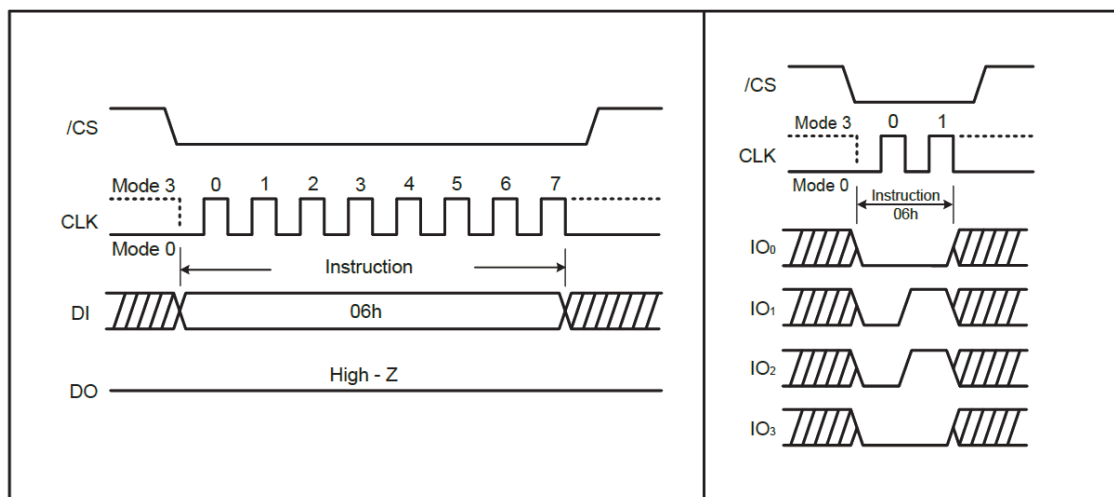

Figure 7, Write Enable Instruction Sequence Diagram and QPI Mode (right)
Instructions vary in length from a single byte to several bytes and may be followed by address bytes, data bytes, dummy bytes (don't care), and in some cases, a combination. Instructions are completed with the rising edge of edge CS#. Clock relative timing diagrams for each instruction are included in figures 7 through 43. All read instructions can be completed after any clocked bit. However, all instructions that Write, Program or Erase must complete on a byte boundary (CS driven high after a full 8-bits have been clocked) otherwise the instruction will be terminated. This feature further protects the device from inadvertent writes. Additionally, while the memory is being programmed or erased, or when the Status Register is being written, all instructions except for Read Status Register will be ignored until the program or erase cycle has completed.
The Write Enable instruction (Figure 7) sets the Write Enable Latch (WEL) bit in the Status Register to a 1. The WEL bit must be set prior to every Page Program, Sector Erase, Block Erase, Chip Erase and Write Status Register instruction. The Write Enable instruction is entered by driving CS# low, shifting the instruction code "06h" into the Data Input (DI) pin on the rising edge of CLK, and then driving CS# high.